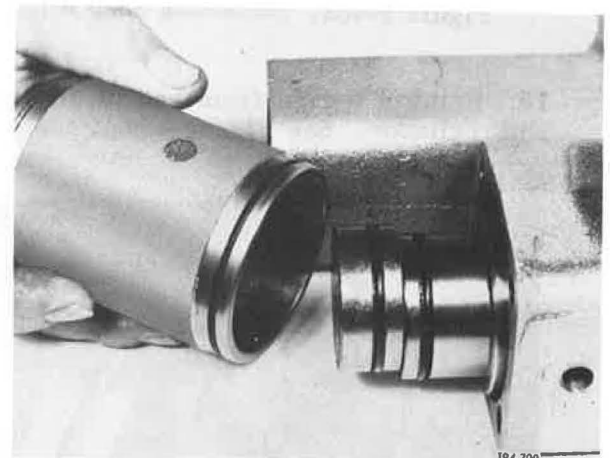

Figure 5-800. Removing Shift Cylinder
12. Remove Hi/Direct shift cylinder from air shift cover. See **Figure 5-800.**